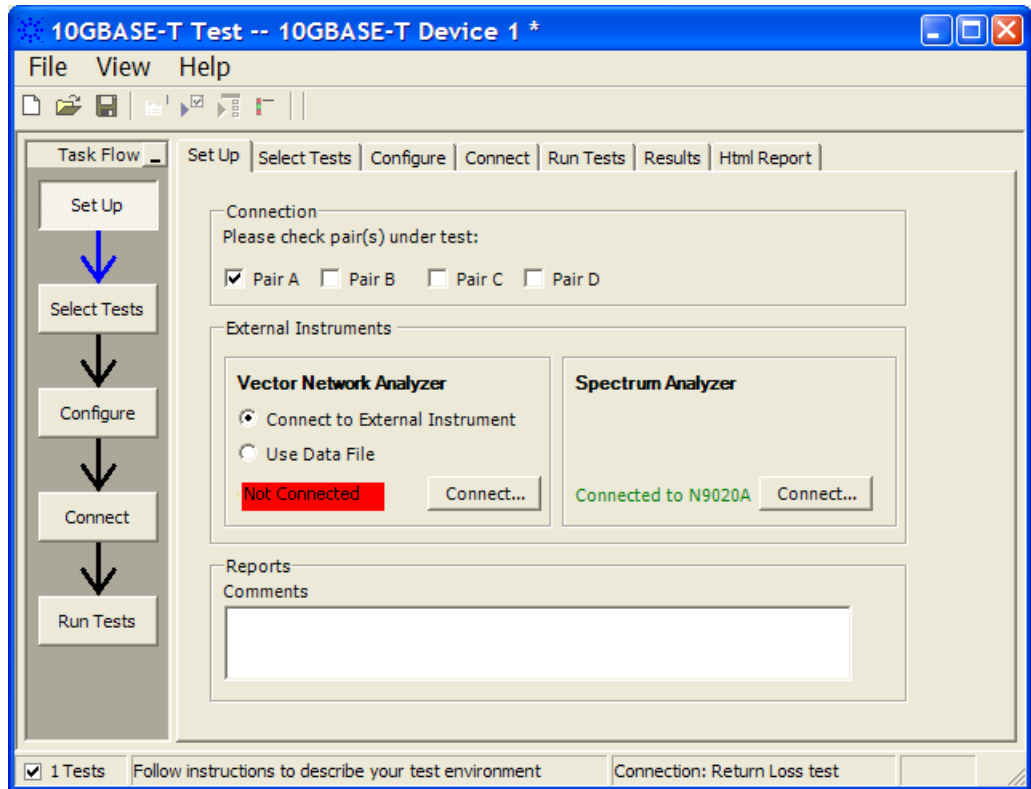

Figure 20 Setup page after application has detected the spectrum analyzer
- 9 Once the application detects the spectrum analyzer, it is indicated on the Setup page as shown in Figure 20 below.